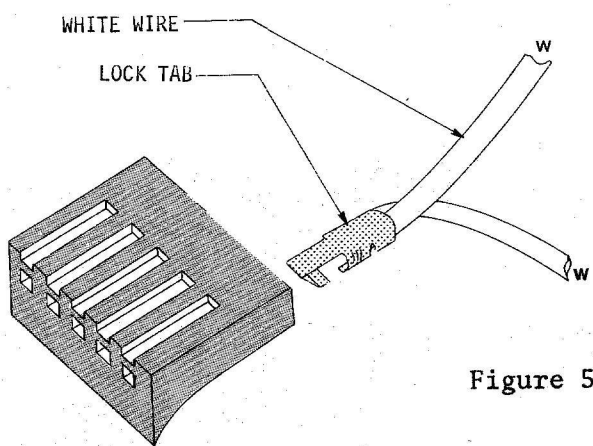

Figure 5
10. Beginning with the two knotted white wires, orient the terminal pin and the 5-pin female connector according to Figure 5. Now, push the pin into the female connectors' slot until it locks into place.